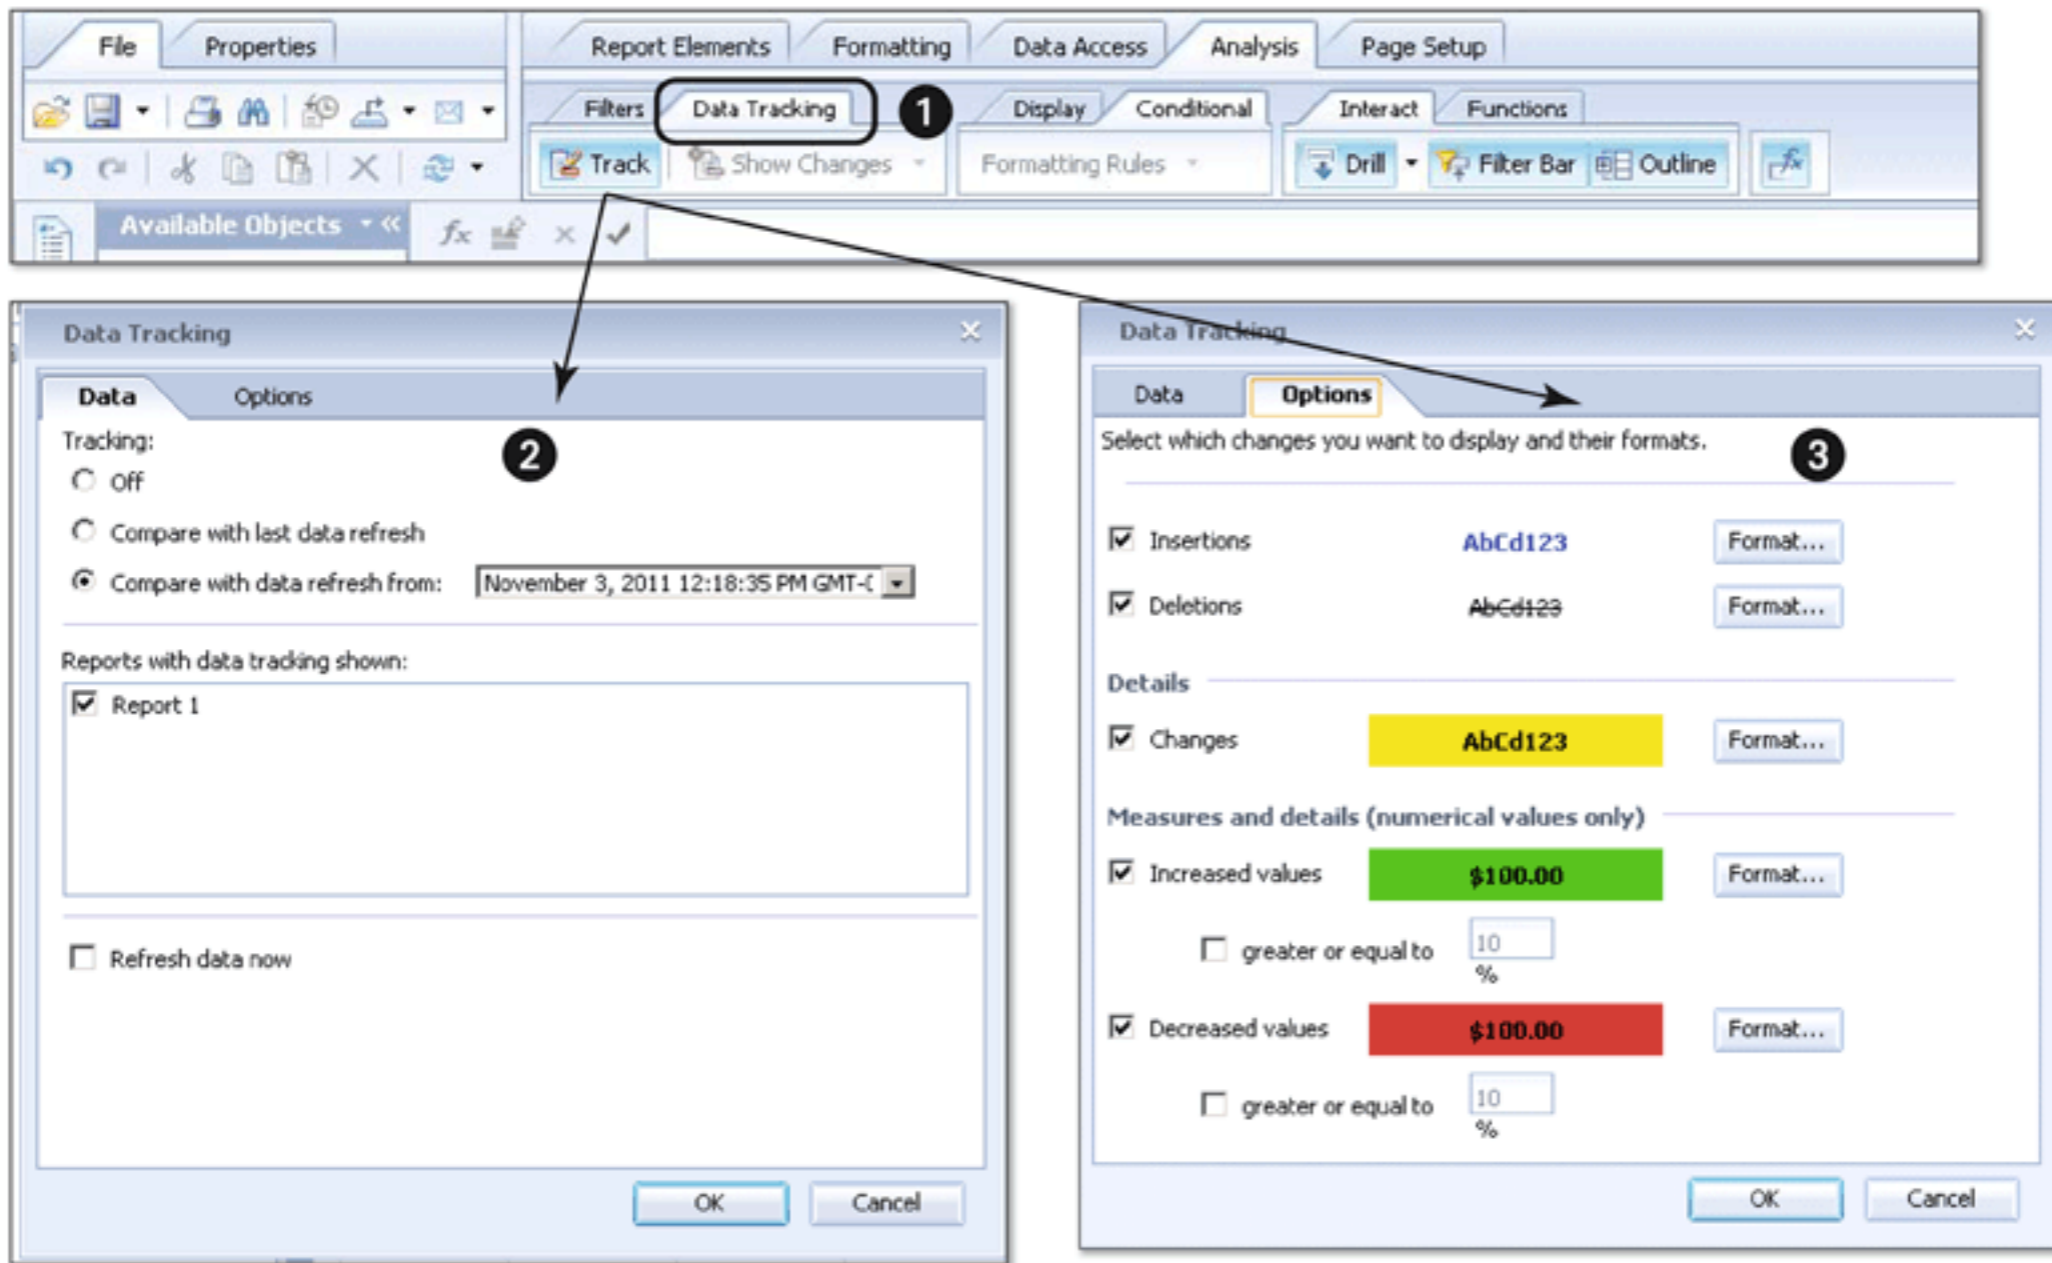

Figure 13.12 Data Tracking in SAP BusinessObjects Web Intelligence Reports
We would also like to point out one of the important features available in SAP BusinessObjects Web Intelligence: the DATA TRACKING option, which allows you to highlight any changes to the data (see Figure 13.12).
Under the DATA TRACKING tab (❶ of Figure 13.12), you can define the reference point against which data changes should be tracked (❷). You can also select the specific changes that you want to display in the report and define its format on the OPTIONS tab, as shown in ❸ of Figure 13.12.